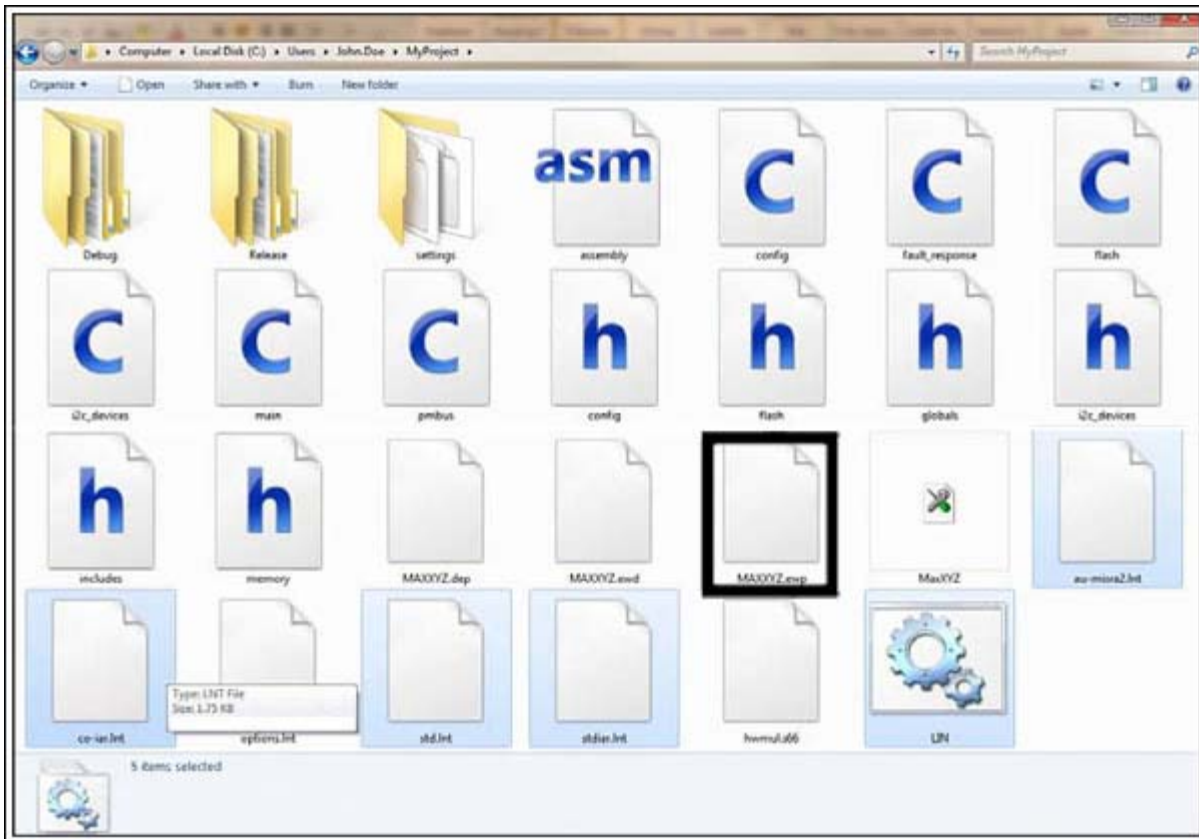

Figure 1. IAR project root directory.
3. Unzip PC-LintFiles.zip into your IAR project root directory. The project root directory is the folder which contains the .ewp file for your IAR project. This example is located in C:\Users\John.Doe\MyProject. Figure 1 shows these five files in the IAR project root directory which also contains various *.C and *.H files, along with the *.ewp file.